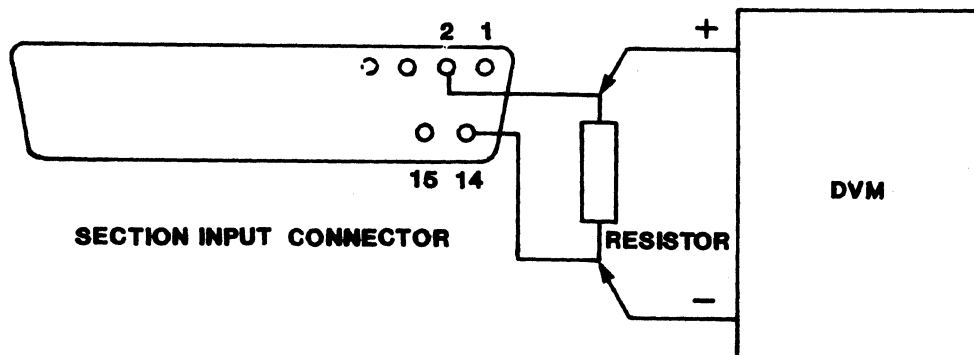

Figure 3-7. Test Connections for Threshold Voltage Adjustment
2. Install the 4.7K-0hm resistor between sockets 2 (ground) and 14 (Clock Threshold input) at SECTION A (bits 7-0). Connect the DVM positive (+) lead to socket 2 and DVM negative (-) lead to socket 14 so that the voltage measurement is taken across the resistor as shown in Figure 3-7.
1. Install the 4.7K-Ohm resistor at sockets 2 and 14 of the SECTION A Input connector (bits 7-0). Connect the DVM positive (+) lead to socket 2 and connect the DVM negative (-) lead to socket 14 so that the measurement is taken across the resistor as shown in Figure 3-7.